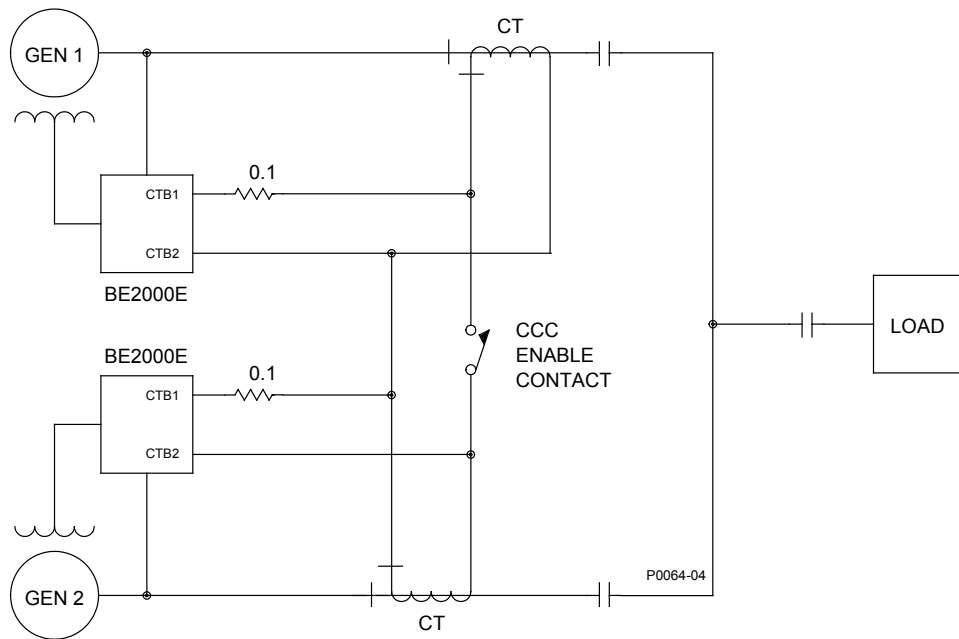

Figure 12. Cross-Current (Reactive Differential) Connections for Two Generators
Figure 12 illustrates the connection of two BE2000E devices used in a Cross-Current (Reactive Differential) application. Note that the 0.1 ohm resistor shown may have to vary. When operating in parallel reactive differential mode (cross current), attention must be paid to the use of the burden resistor shown in Figure 12. The burden resistor should have a value approximately 10 times the cross current loop resistance for proper differential operation. The value of 0.1 ohm is a suggested value. The volt-ampere (VA) capacity of the paralleling current transformers should be considered after sizing the burden resistor.